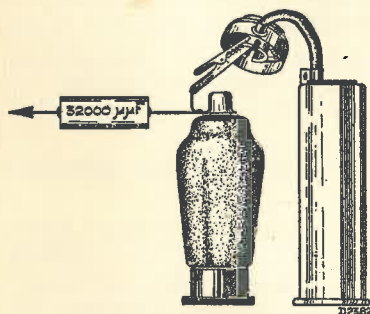

Fig. 2.
7. Apply modulated signal of 128 K.C. via 32,000 μF to the fourth grid of L1 (Fig. 2).